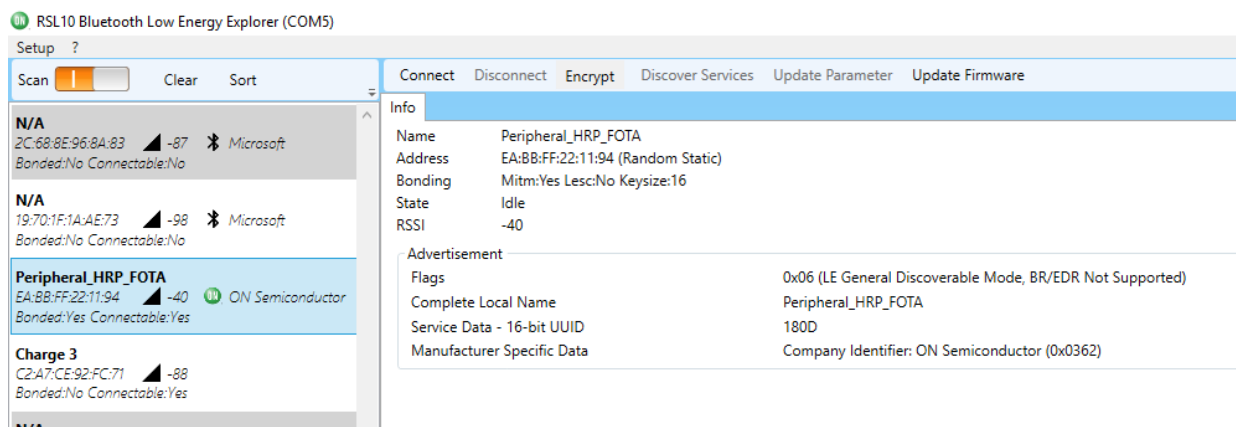

Figure 7. Firmware Running
- You can use the RSL10 Bluetooth Low Energy Explorer or another application to confirm that your new firmware is running and advertising under the name *Peripheral_HRP_FOTA*, as shown in Figure 7 on page 12: